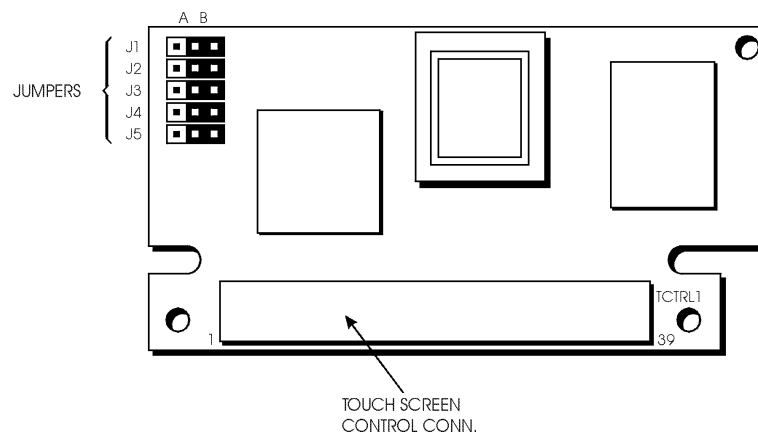

Figure 3-15. Touchscreen controller card.
3. Remove the touchscreen controller card (Figure 3-15).